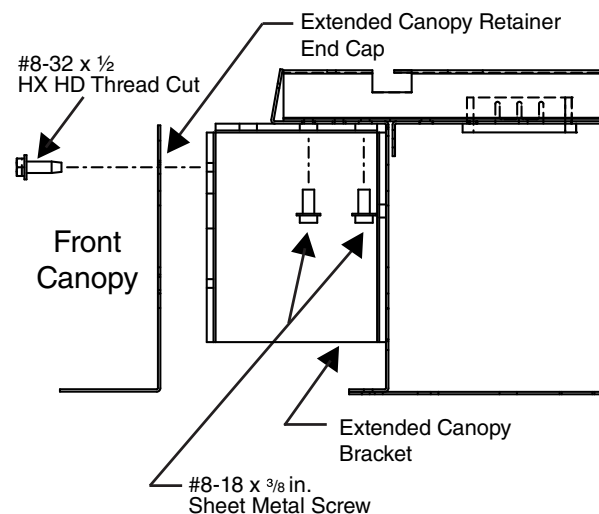

Figure 7-5
D. Install #8-32 x 1/2-HX HD Thread Cut screw into each corner to temporarily hold the extended canopy retainer in place as shown in Fig. 7-5.